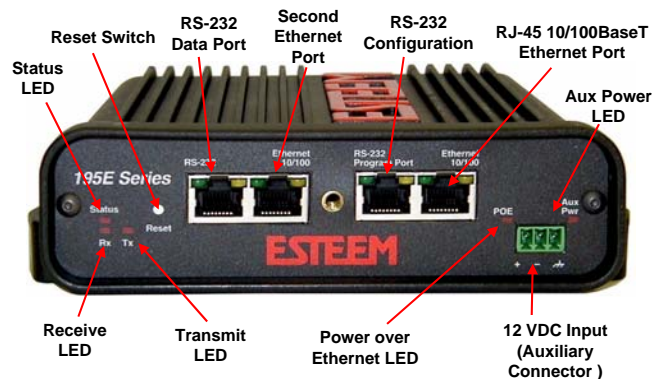

Figure 4: 195Ea Front Panel Overview
The RJ-45 serial data port is the far-left port on the face of the 195Ea (Figure 4). Using the ESTeem AA0621 interface cable, the 195Ea can be connected to a standard DTE-device (PC) with a male 9-pin Sub-D connector. The complete cable configuration is available in Appendix C – Interface Ports.